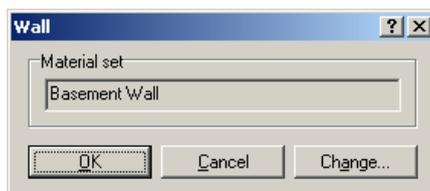

Figure 3.13 Inspecting the material data set for a structural element
**Hint:** To check whether the correct material set has been assigned to a structural element, double click the object, and select it from the select window that appears. A window will appear, see Figure 3.13, indicating the type of object and the material data set assigned to it. The *Change* button can be used to assign a different material data set to the object.